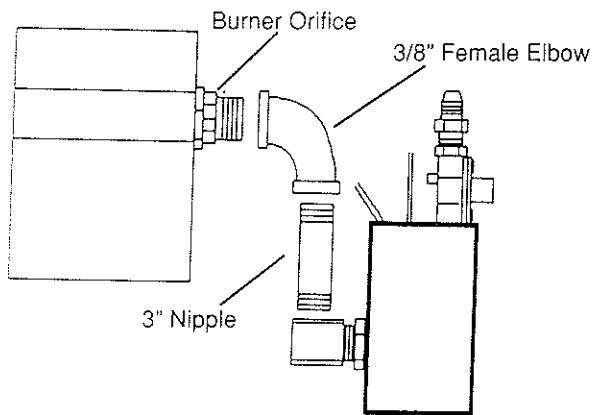

Figure 6
9. Using pipe dope connect the 3" Nipple to the Street Elbow attached to the valve assembly and to the 3/8" Female Elbow. Then connect the 3/8" Female Elbow, which is connected to the entire valve assembly, to the Burner Orifice using pipe dope. (See Figure 6.)